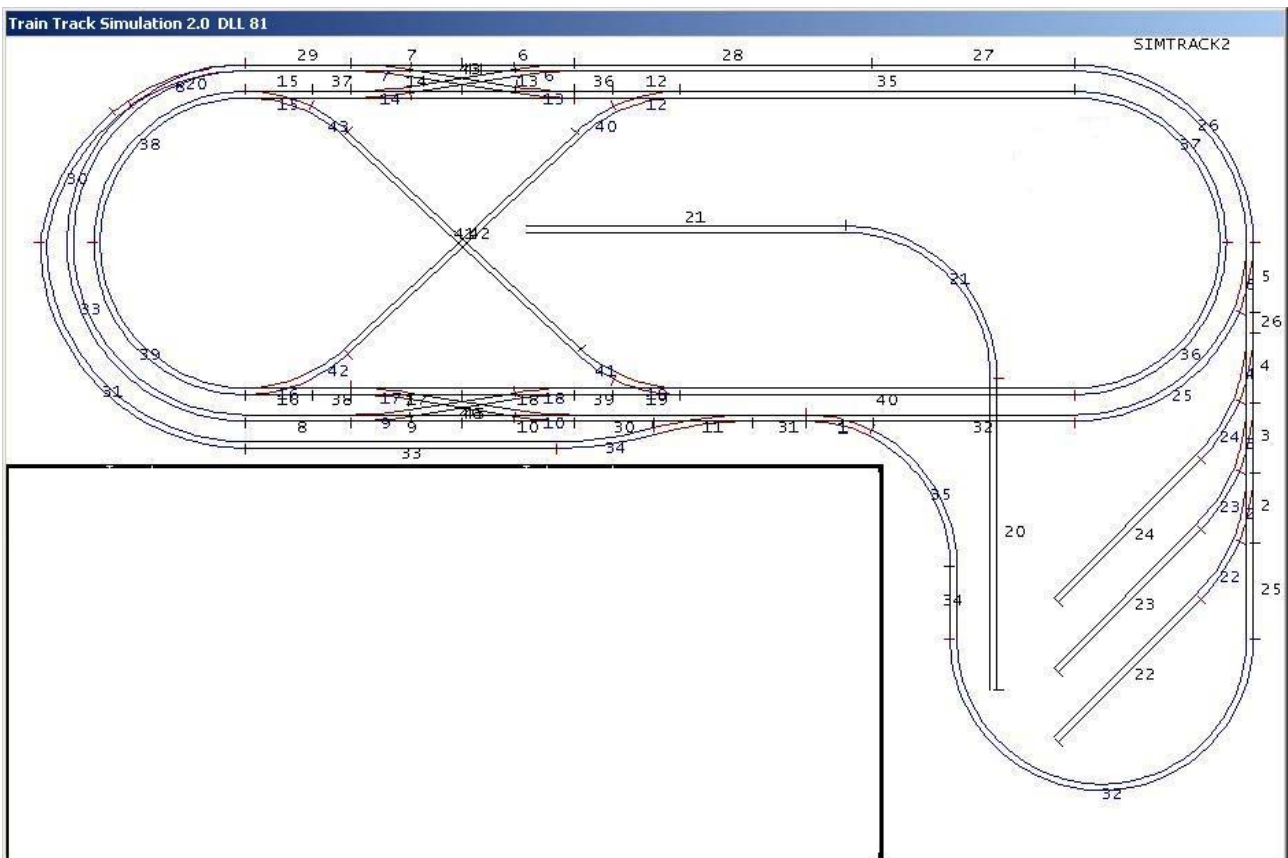

Figure 1: Swinburne Model Railroad Layout
- The supplied data consists of a text file defining the track segments (straight lines and circular arcs). (Connectivity is implicit in this file because xy points appear more than once, but possibly another file may be needed later.) These segments define the middle of the tracks. The data is in mm. Overall the layout fits within a rectangle approximately 3m x 2m -- see Figure 1. The application must read this file and display the whole layout with rails either side of the segments. (No sleepers.)
6. Allow the user to choose to see arc segment numbers or line segment numbers. You do not have to duplicate Figure 1. (2 marks)
Note: all measurements in mm and (0,0) is top left of Figure 1. Turnout=0 means the segment is not part of a turnout.
- Here the positive direction within a segment is to the right (so this could correspond to L31 and A1 in Figure 1).